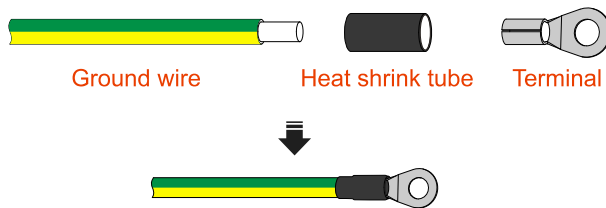

Figure3-26 Grounding wire stripping diagram
Step 1 Strip the insulation layer of the grounding wire by crimping tool, and press it into the corresponding terminal, as shown in Figure3-26.